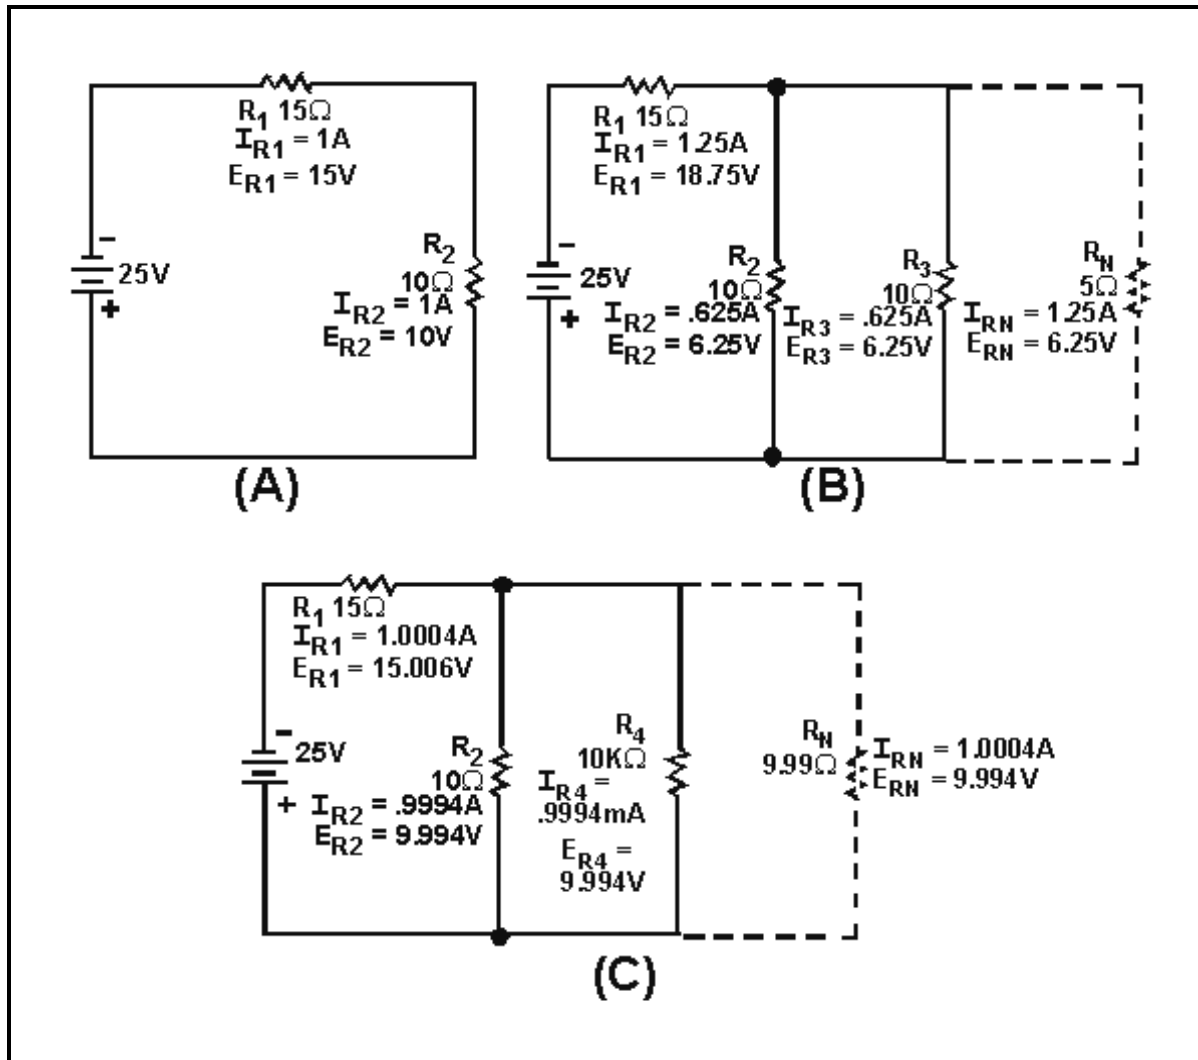

Figure 1-26.—The loading effect.
A voltmeter has an effect on the circuit being measured. This is called **LOADING** the circuit. Figure 1-26 illustrates the loading effect and the way in which the loading effect is kept to a minimum.
In figure 1-26(A), a series circuit is shown with  $R_1$  equaling 15 ohms and  $R_2$  equaling 10 ohms. The voltage across  $R_2$  ( $E_{R2}$ ) equals 10 volts. If a meter (represented by  $R_3$ ) with a resistance of 10 ohms is connected in parallel with  $R_2$ , as in figure 1-26(B), the combined resistance of  $R_2$  and  $R_3$  ( $R_N$ ) is equal to 5 ohms. The voltage across  $R_2$  and  $R_3$  is now 6.25 volts, and that is what the meter will indicate. Notice that the voltage across  $R_1$  and the circuit current have both increased. The addition of the meter ( $R_3$ ) has loaded the circuit.
In figure 1-26(C), the low-resistance meter ( $R_3$ ) is replaced by a higher resistance meter ( $R_4$ ) with a resistance of 10 kilohms. The combined resistance of  $R_2$  and  $R_4$  ( $R_N$ ) is equal to 9.99 ohms. The voltage across  $R_2$  and  $R_4$  is now 9.99 volts, the value that will be indicated on the meter. This is much closer to the voltage across  $R_2$ , with no meter ( $R_3$  or  $R_4$ ) in the circuit. Notice that the voltage across  $R$ , and the circuit current in figure 1-26(C) are much closer to the values in 1-26(A). The current ( $I_{R4}$ ) through the meter ( $R_4$ ) in figure 1-26(C) is also very small compared to the current ( $I_{R2}$ ) through  $R_2$ . In figure 1-26(C) the meter ( $R_4$ ) has much less effect on the circuit and does not load the circuit as much. Therefore, a voltmeter should have a high resistance compared to the circuit being measured, to minimize the loading effect.